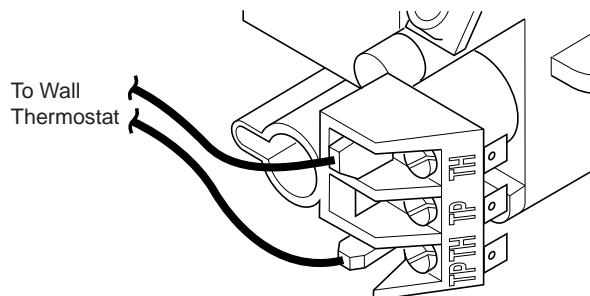

Figure 41 - Control Valve Terminals
3. Connect one terminal of 25 ft. wire for the wall thermostat to the TPTH terminal on the valve. Connect remaining wire terminal to the TH terminal on the valve. Make sure that the wire terminals are in the positions on the unit as pictured in Figure 41. If wires are not connected as shown the thermostat will not work.